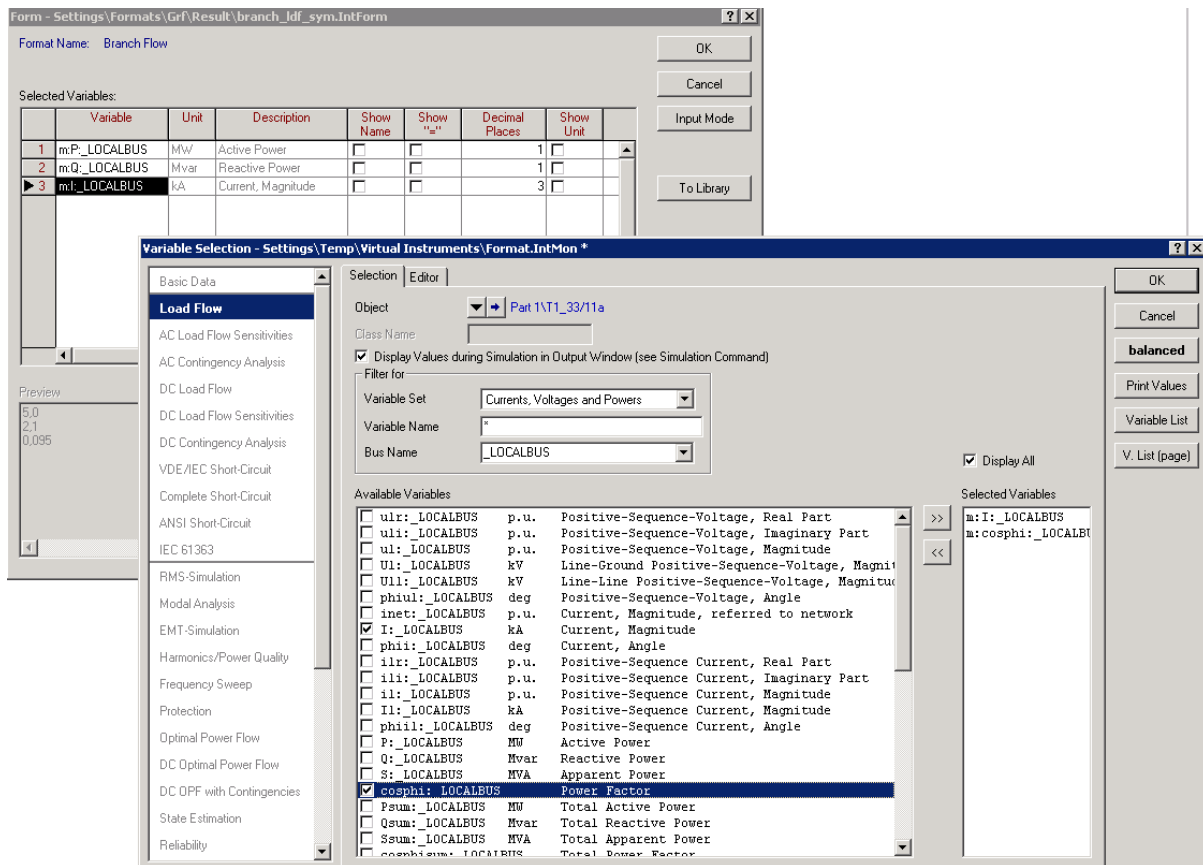

Figure D.4.1: Editing result boxes using predefined variables
- Select the option *Edit Format for Edge Elements*. The format dialogue window appears (see Figure D.4.1).